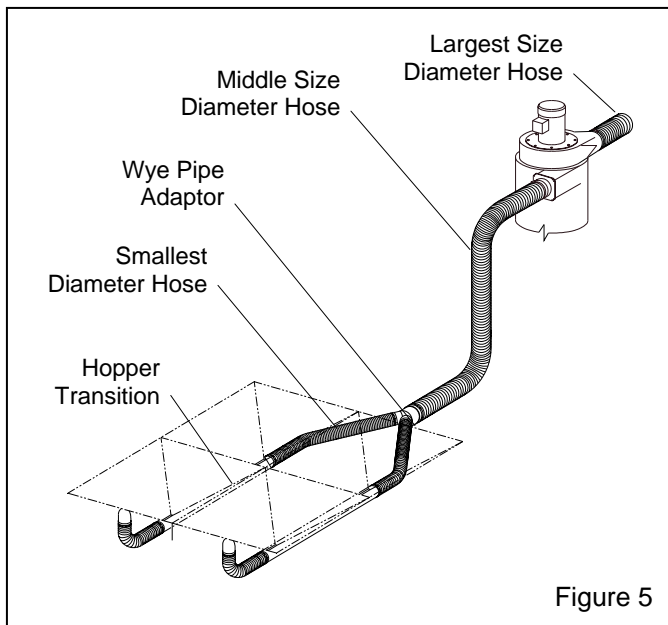

Figure 5
2.4 Connect Conveying Hose, Figure 5